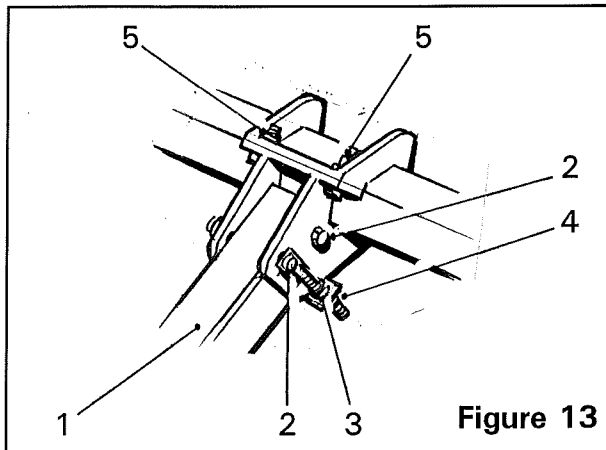
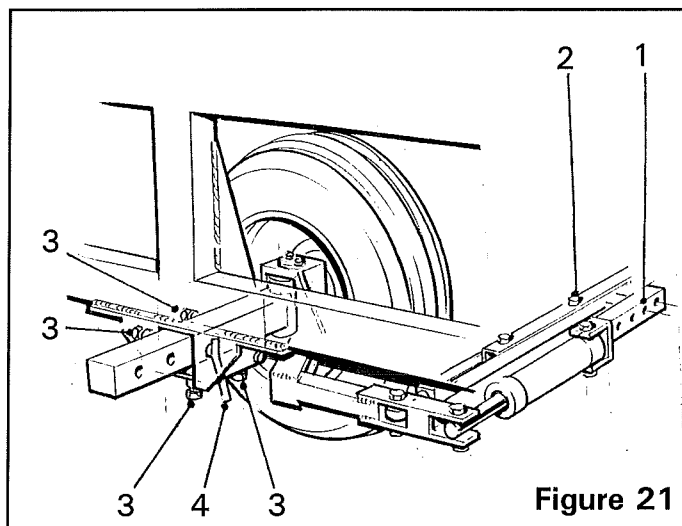
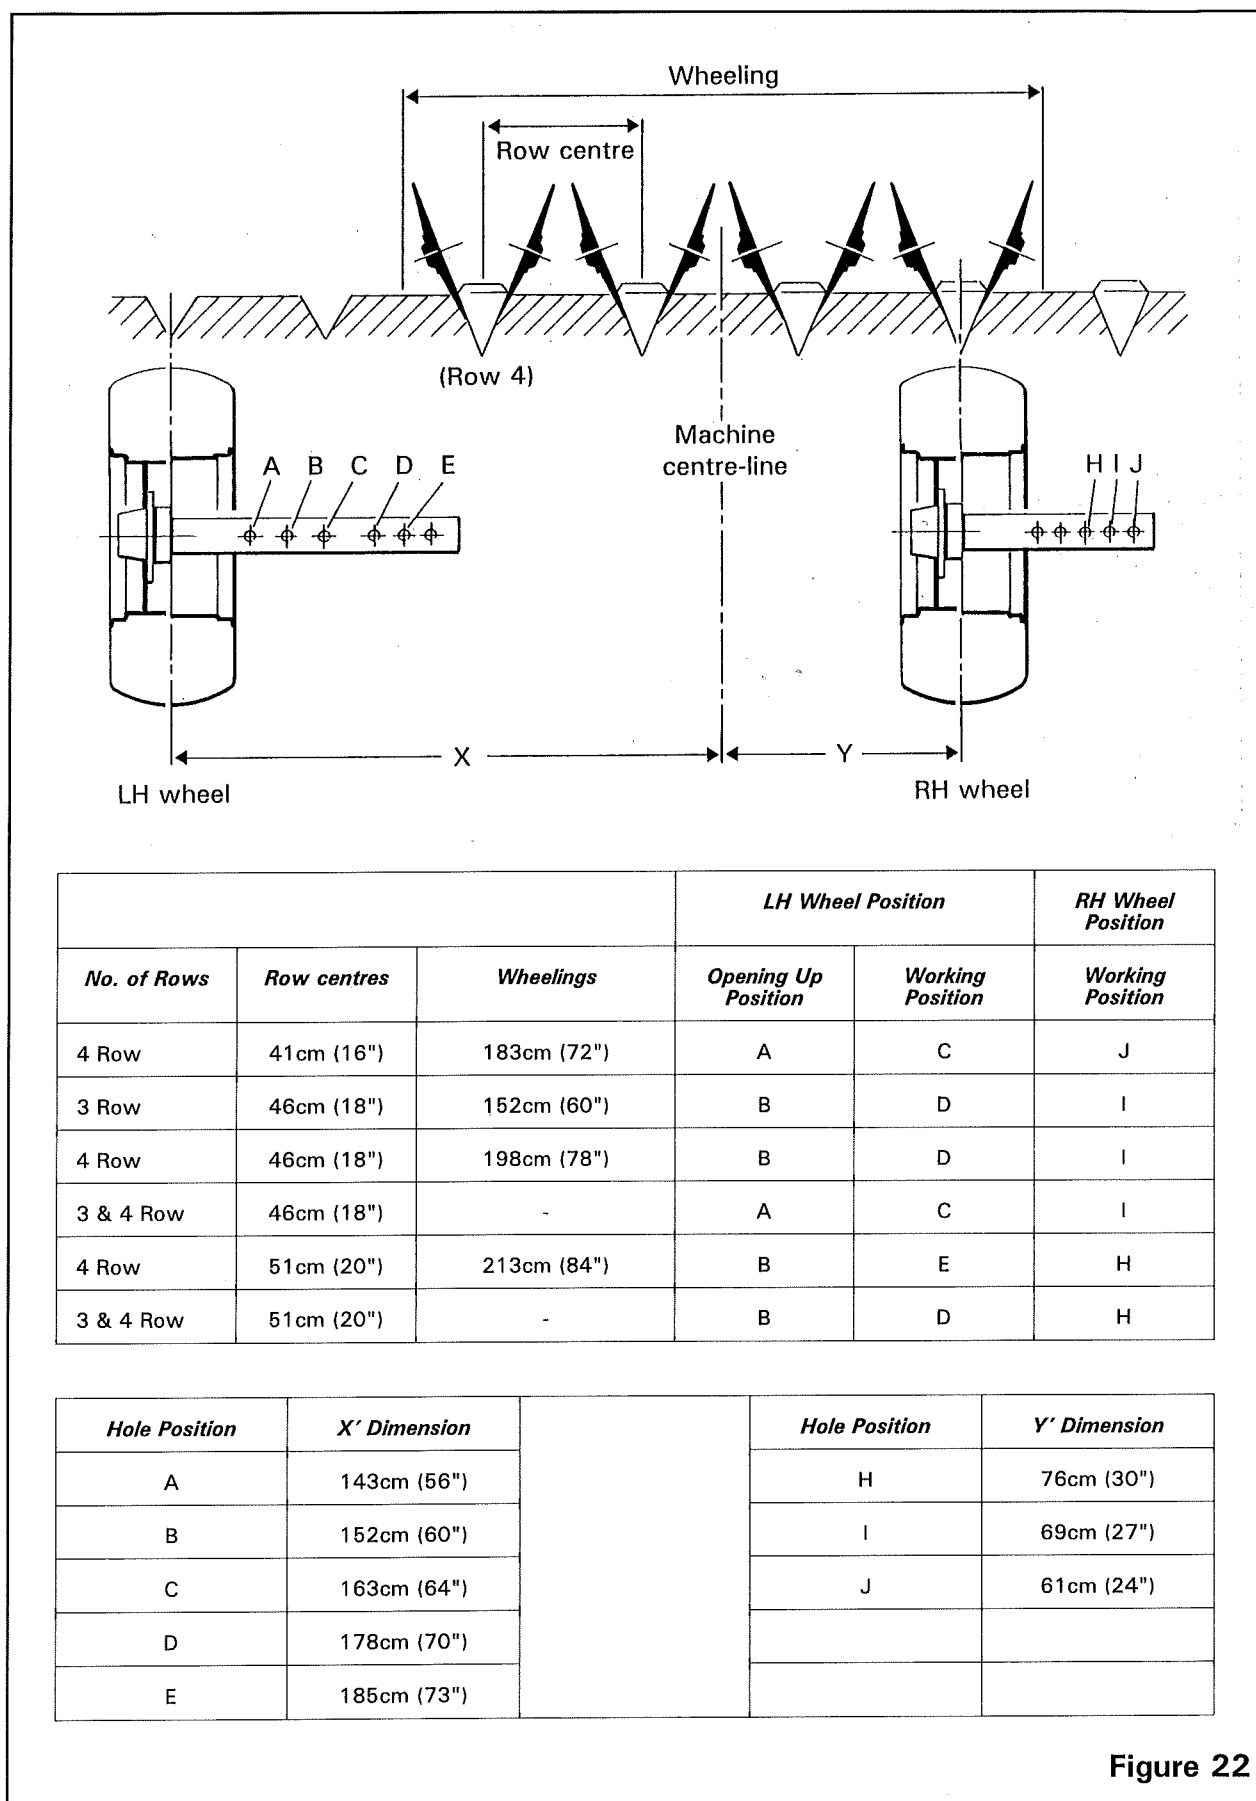

Figure 13
Figure 21
Figure 22
The skewbar arms are adjustable for different row settings. To adjust the position of a skewbar arm it is essential to follow the procedure as written below. All row settings should be made about the centre-line of the machine (*see figure 22*).
The lifting wheels are designed to lift the sugarbeet from the ground and transfer them onto the lift web. The working depth of the lifting wheels is determined by the depth required to lift the beet cleanly without breaking off the root or lifting too much soil (approximately 5cm (2")). The depth is increased or decreased by actuating the drawbar depth ram. Further depth control can be effected by changing the angle of the lifting wheel mountings (*item 1, figure 13*).
To lower the lifting wheels relative to the harvester, loosen the locking bolts (*item 2, figure 13*) and the locknuts (*item 3, figure 13*), and turn the adjuster nuts (*item 4, figure 13*) in the required direction. This adjustment will also alter the point of lifting in relation to the width of the lifting wheels.
The lifting wheel units can be adjusted to follow 46cm (18") to 56cm (22") rows on a three row machine, and 41cm (16") to 51cm (20") rows on a four row machine. For 41cm (16") work a different lifting wheel mounting is required. To obtain these settings, loosen the securing bolts (*item 5, figure 13*) and move the lifting wheel unit along the mounting bar. All row width settings should be made about the centre-line of the machine (*see figure 22*)
2. If steerable rear wheels are fitted, remove the ram support bolts (*item 1, figure 21*) and the track rod retaining bolts (*item 2, figure 21*).
3. Loosen the stub axle clamp bolts (*item 3, figure 21*) and withdraw the locking pin (*item 4, figure 21*).
4. Slide the stub axle to the required position (*see figure 22*).
5. Refit the locking pin (*item 4, figure 21*) into the correct hole (*see figure 22*) and retighten the axle clamp bolts (*item 3, figure 21*).
6. If steerable rear wheels are fitted, replace the ram support bolts (*item 1, figure 21*) and the track rod retaining bolts (*item 2, figure 21*).
To adjust the steering feet to suit different row centres, remove the tie tube (*item 4, figure 24*) and detach the two springs (*item 5, figure 24*). Loosen the securing bolts (*item 6, figure 24*) and slide the steering unit to the required position. All row width settings should be made about the centre-line of the machine (*see figure 22*). Adjust the tie tube to suit the desired row setting by turning the adjustable ends (*item 7, figure 24*). Finally, refit the tie tube (*item 4, figure 24*) and springs (*item 5, figure 24*).